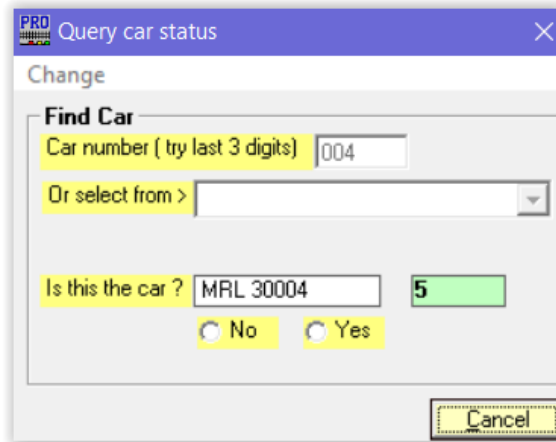

Figure 10-3c
- ii. Enter the car number in the "Car number ..." data field, in most cases only the last 3 digits will be needed to identify a unique car. For this example we will enter "004" and click on the "Enter" button and the window will change as shown in Figure 10-3c.